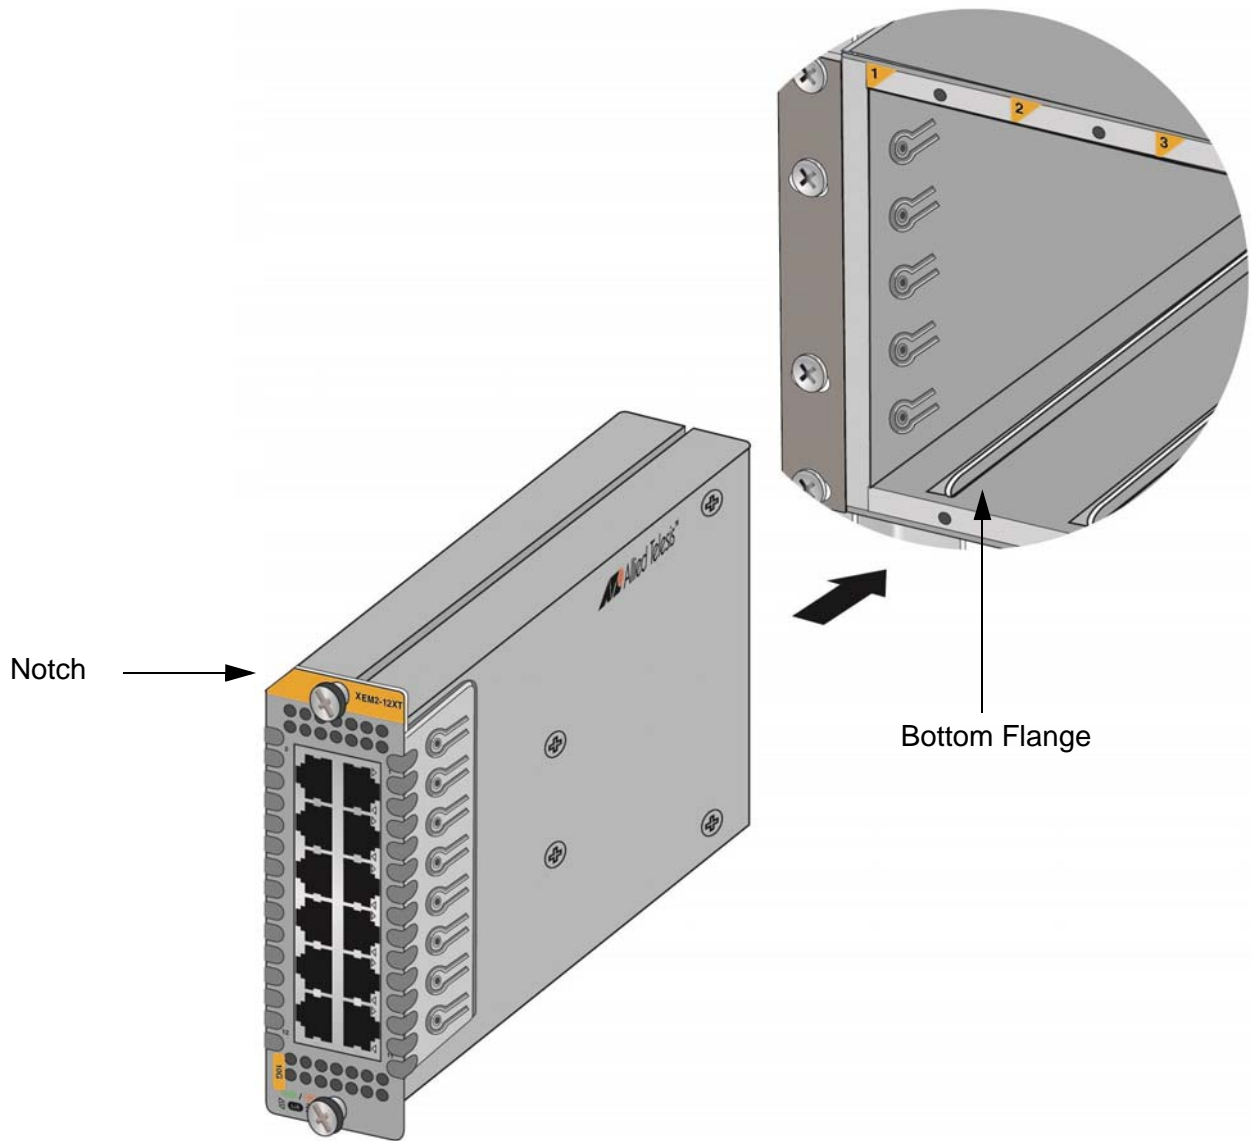

Figure 44. Sliding the Ethernet Line Card into the Slot
4. Position the line card with the notch on the faceplate in the upper left corner, as shown in Figure 44 on page 81 and carefully slide it into the slot. The slot in the chassis has top and bottom flanges that fit into grooves on the top and bottom of the card.